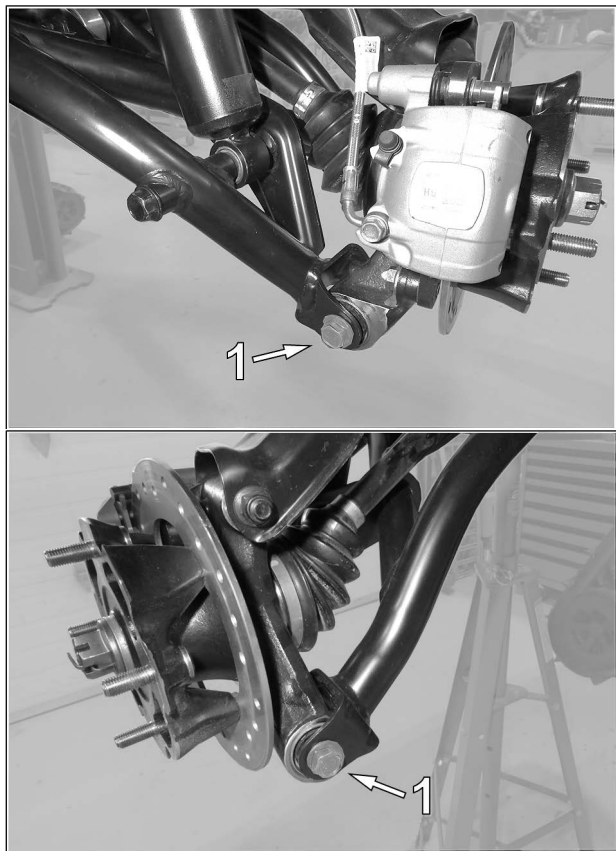

Fig. 4
- Loosen and remove both flange bolts (1) linking the lower suspension arm to the wheel hub. See Fig. 4